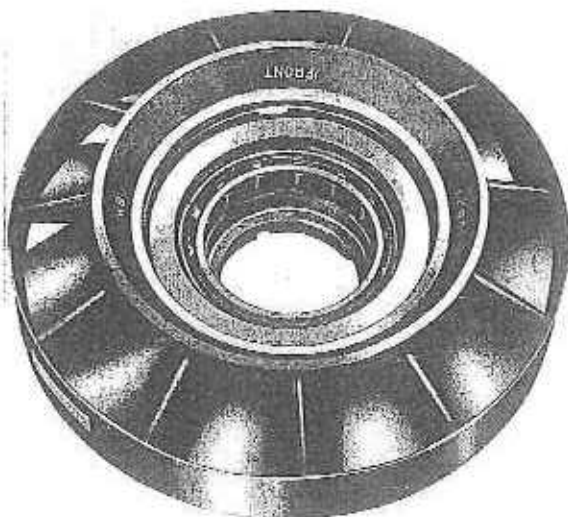

FIG 10
5. (Fig. 10) Slide the outer race and clutch ring into the stator body, with the broader flange of the clutch uppermost.